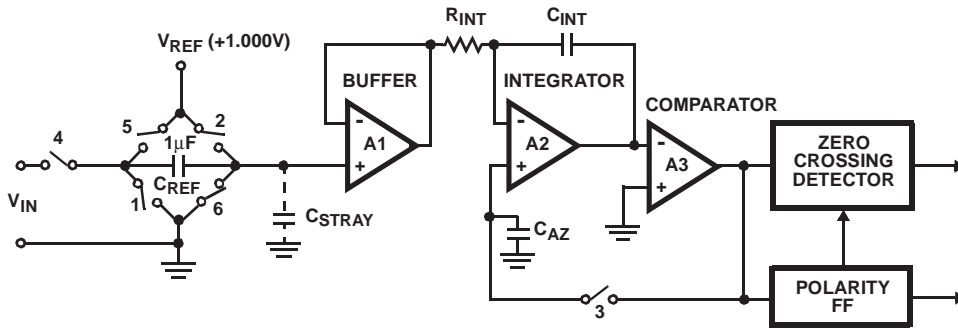

FIGURE 2C. PHASE III + DEINTEGRATE
**Deintegrate Phase II** (Figures 2C and 2D)